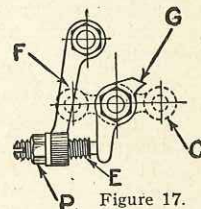

Figure 17.
**First and IMPORTANT.** The adjusting screw "E" as shown in Figure 17 should always be set so it will just touch the push finger "G" when the spring arm "C" is in a horizontal position. If screw "E" does not touch push finger "G" or if it is set too far you will only get a weak spark.